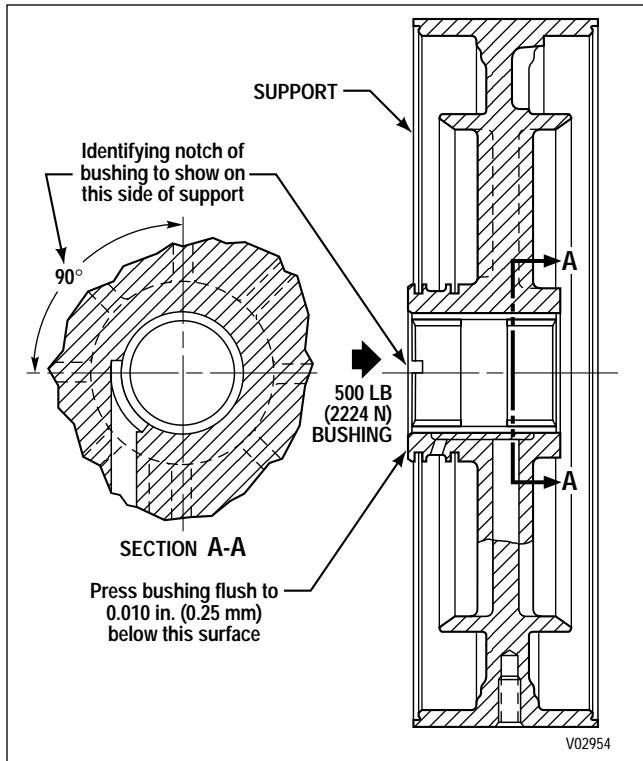
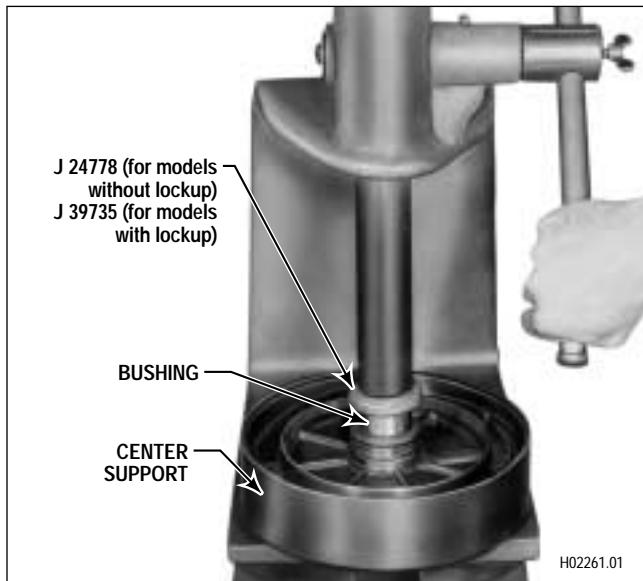
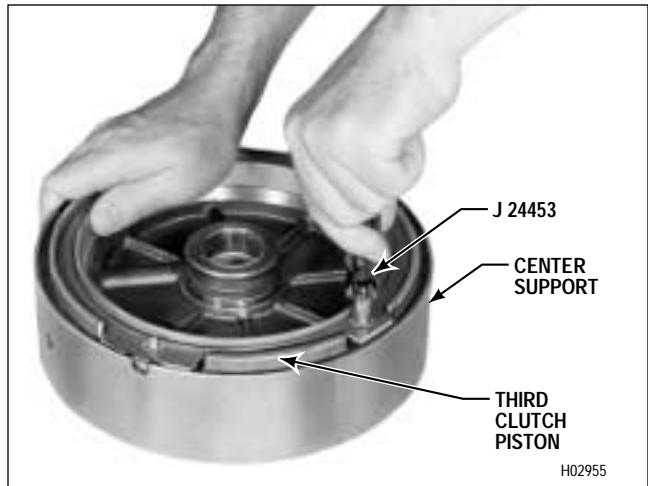

Figure 6-48. Center Support Assembly
Figure 6-49. Installing Center Support Bushing
Figure 6-50. Installing Self-Locking Retainer Washer
(1) Place center support 15 in a press, seal-ring grooves side upward. To ensure proper alignment of the oil hole in bushing 14 with the notch in support 15, the identifying notch of the bushing must lie in the area indicated (Figure 6-48). Using bushing tool J 24778 (for models without lockup) or J 39735 (for models with lockup), install bushing 14 (Foldout 9,B) as shown in Figure 6-49.
(2) If a special bushing tool is not available, press bushing 14 flush to 0.010 inch (0.25 mm) below the surface adjacent to the bore. The bushing must withstand 500 pounds (2224 N) of end load as specified in the direction of Arrow A in Figure 6-48 after assembly.
(3) Place piston 9 (Foldout 9,B) in its bore without the piston sealrings in place, with the four ejector pin bosses upward. Install piston return springs 8 in the twelve holes in third clutch piston 9.
(4) Place spring retainer 7 on piston 9, aligning the four holes in the piston. Using tool J 24453, install four new self-locking retainer washers 6 onto the eight ejector pin bosses (Figure 6-50).
(5) Remove piston 9 from the support assembly.
(6) Repeat steps (3) through (5) for piston 18.
(7) Install sealrings 10 and 17 into the inside diameter groove of pistons 9 and 18. Install sealrings 11 and 16 into the outside diameter grooves of pistons 9 and 18. Be sure the lips of the sealrings and the flat side of the piston face the same direction. Special care is required to prevent distortion, cutting, or stretching of the sealrings. Apply oil-soluble grease to the sealrings.
(8) Install two hook-type sealrings 12 onto the hub of center support 15.